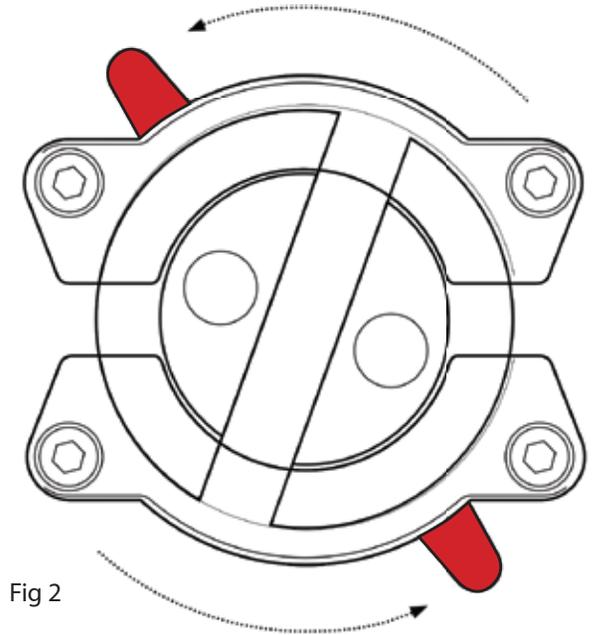

Fig 2
- Twist handles as seen in Fig 2 to engage ganging clips.